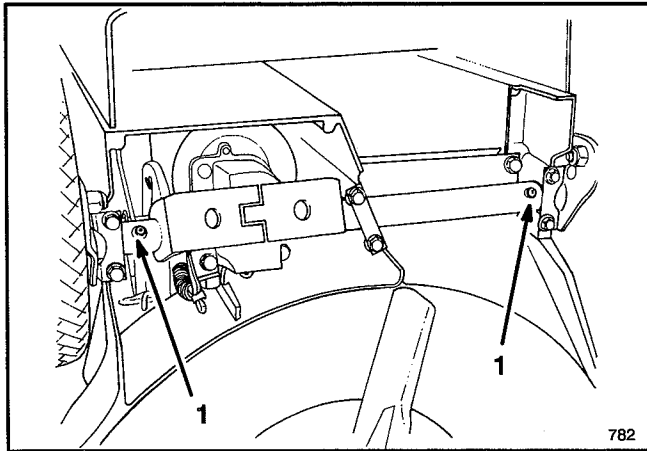

Figure 26
2. Tip the mower on its left side. Wipe grease fittings with clean rag (Fig. 26). Install grease gun onto fitting and gently apply one or two pumps of #2 Multi-Purpose Lithium Base Grease.